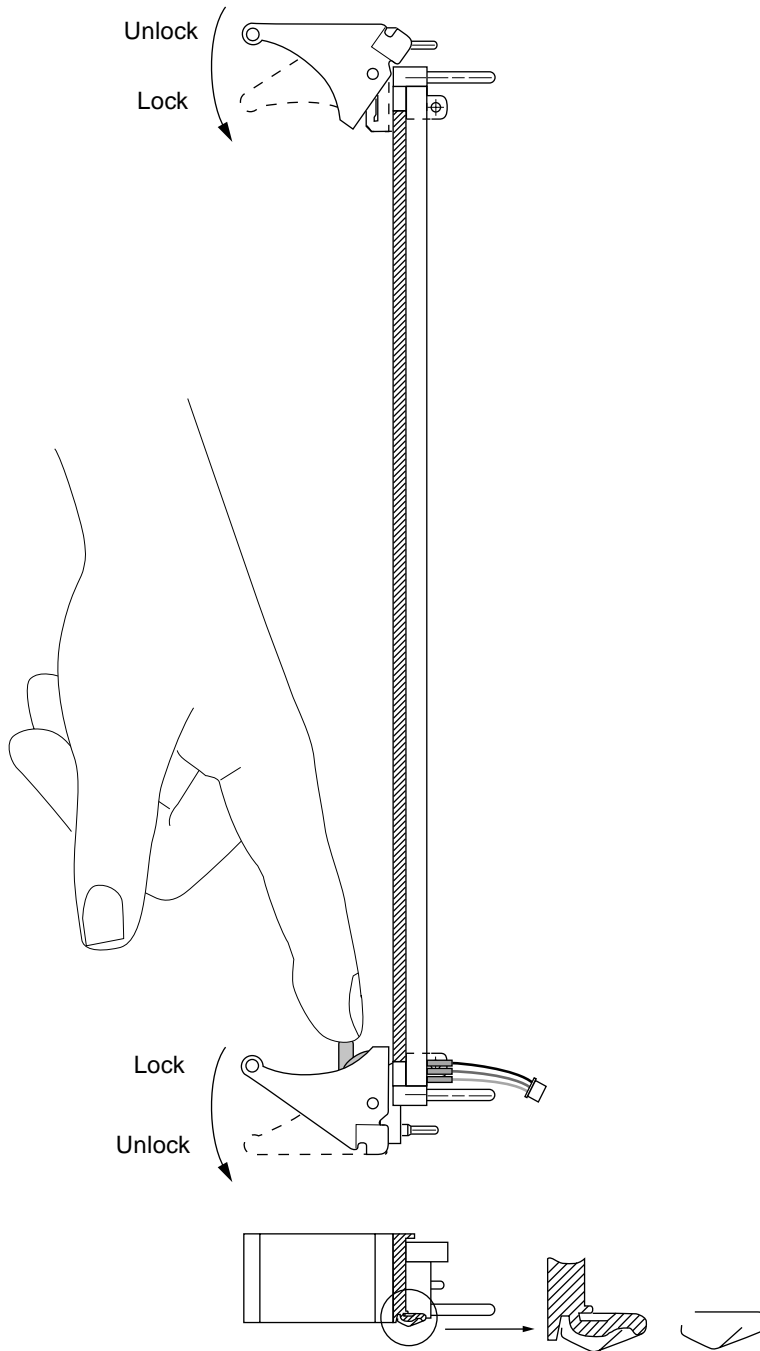

FIGURE 2-10 Releasing and Locking the Netra CP2140 Board Injector/Ejector Handles
3. Slide the new I/O board into the top and bottom mounting rails in the same slot into the backplane while gently keeping the board handles in the open position. Once the board is all the way in, lock the ejector handles (see FIGURE 2-10).
- 4. Slide the new I/O board into the top and bottom mounting rails in the same slot into the backplane while gently keeping the board handles in the open position. Once the board is all the way in, lock the ejector handles (see FIGURE 2-10).**
FIGURE 2-10 shows how to release and to lock the CP2140 injector/ejector handles. The blue LED is lit once the board makes a complete contact with the backplane. The LED goes off shortly after the ejector handles are closed, if the hardware initialization of the board is successful. Otherwise, it remains lit, indicating that the board must be replaced.